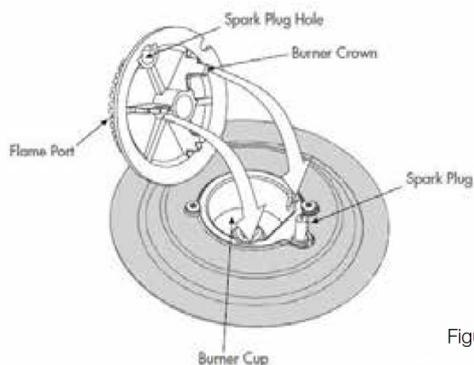

Figure 2
### Removing the burner parts (Refer Figure 2)
- To do this, ensure that the 2 ribs on either side of the spark plug hole are positioned into the 2 slots on the burner cup. (See figure 2).
- Open the lever A completely on the left and right hinges (fig. 2)
- Gently close the door (fig. 3) until left and right hinge levers A (fig. 2) are hooked to part B (fig. 2) of the door
- Triple Glazed oven door: Remove the top frame (G) by unscrewing the 2 screws, located on the left and right sides
- Gently pull out the inner pane of glass (fig. 2). Also remove the centre pane of door glass, not shown here.